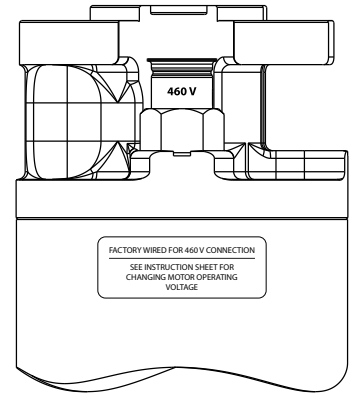

Fig. 1
1. Locate the voltage change seal assembly and remove the jam nut (see Fig. 1).